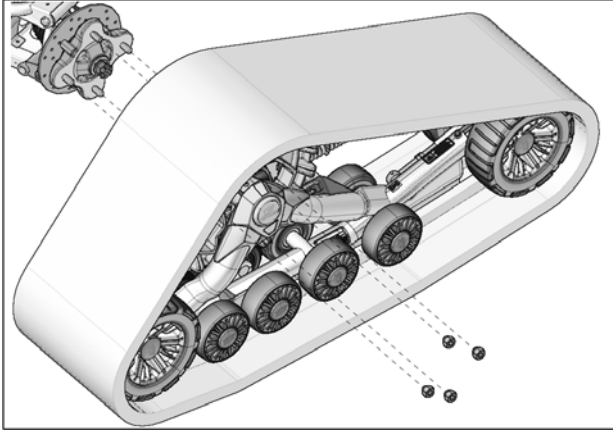

Fig. 10
9. Secure undercarriage to rear hub using the vehicle's own lug nuts. See Fig. 10
6. Using the vehicle's own lug nuts, secure undercarriages to the front wheel hubs. The procedure and precautions are the same as for rear units. Refer to Fig. 10